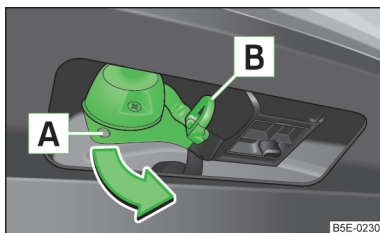

Fig. 157
- Grip the 13-pin socket at point **A** and swing out in the direction of arrow » Fig. 157.
- Grip the 13-pin socket at point **A** and swing in the opposite direction to the arrow » Fig. 157.
The purpose of the safety eyelet **B** » Fig. 157 is to attach the breakaway cable of the trailer.